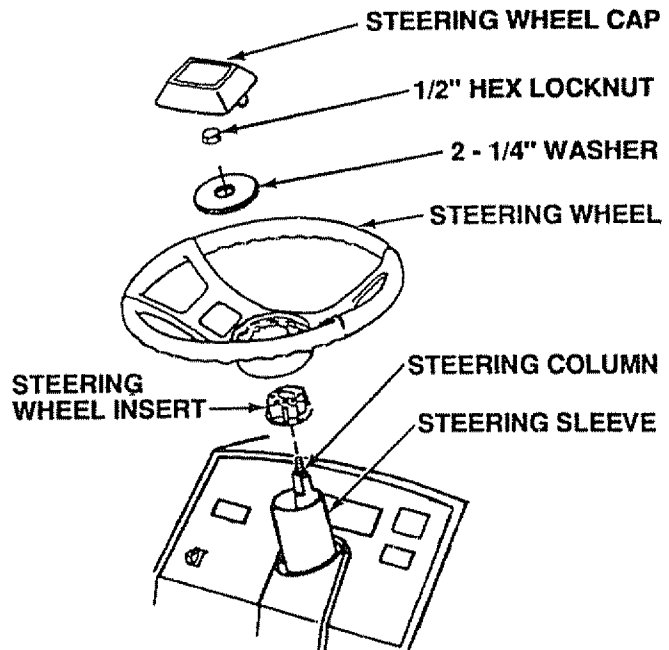

FIGURE 2
- Use a 3/4" wrench to remove hex nut and 2-1/4" diameter washer from steering column (Fig. 2).
- Secure steering wheel to steering column using hex nut and 2-1/4" diameter washer (Fig. 2). Torque to 50 ft. - lbs. (68 N-m).